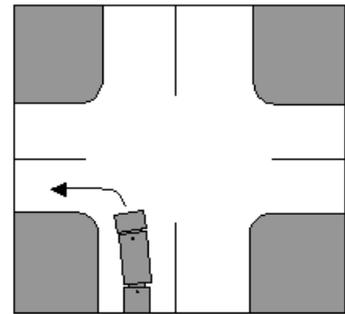

Fig 3
- 32.1.3 left from a two-way road into a two-way road, you must keep as close as practicable to the left kerb (Fig 3).